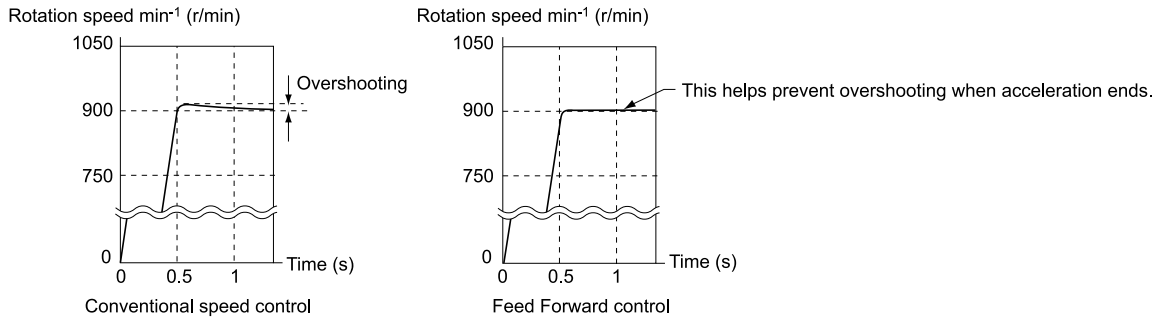
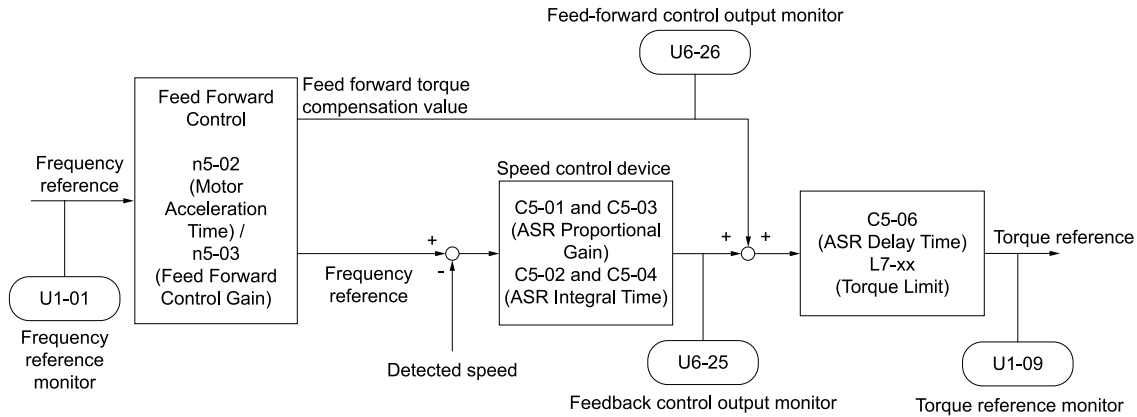

Figure 12.144 Suppress Overshooting with Feed Forward Control
Figure 12.145 Configure Feed Forward Control
Increase $C5-01$ and $C5-03$ [ASR Proportional Gain] to apply feed forward control to machines that have low rigidity and are possible to have hunting and vibration or to machines that have a large quantity of inertia. When you use this function in CLV control, it also helps prevent overshoot. Refer to Figure 12.144. Refer to Figure 12.145 for more information about parameters related to feed forward control.
- If you cannot do Inertia Tuning, refer to Figure 12.145 and set the parameters related to feed forward control individually.